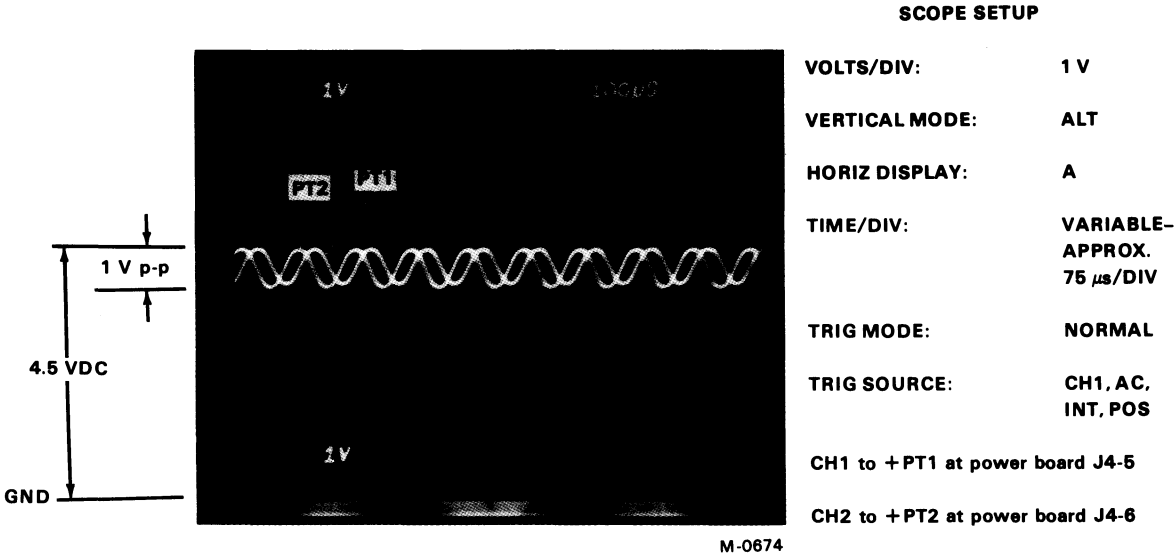

Figure 6-3 +PT1 and +PT2 Waveforms
The voltages and time periods in the carriage servo system vary for different machines, line voltages, and value of current limiting test resistor. The values listed in Figures 6-3 through 6-12 are nominal and can be used as a guide.
6. Check the waveforms at the test points shown in Figures 6-3 through 6-9.